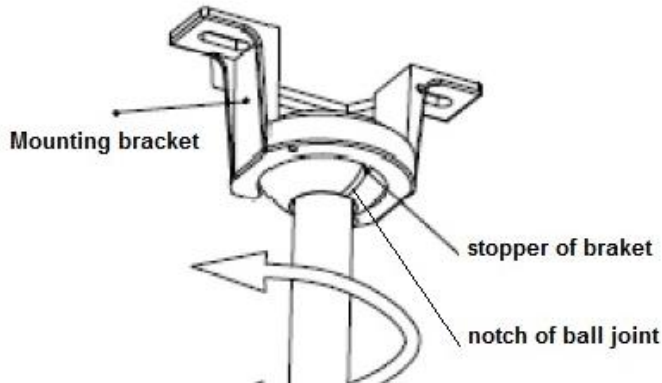

Fig. 7
- Lift fan assembly onto mounting bracket. Fig.7